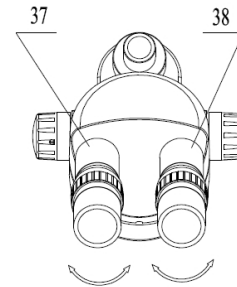

Figure 6
(3) Adjusting the interpupillary distance (Figure 6)